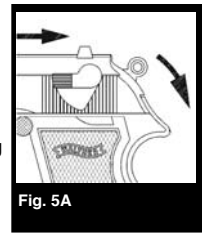

Fig. 5A
- Cock the air pistol by pulling the slide all the way back to the rearward position and releasing it, allowing it to move forward, or by cocking the hammer (**Fig. 5A & 5B**).